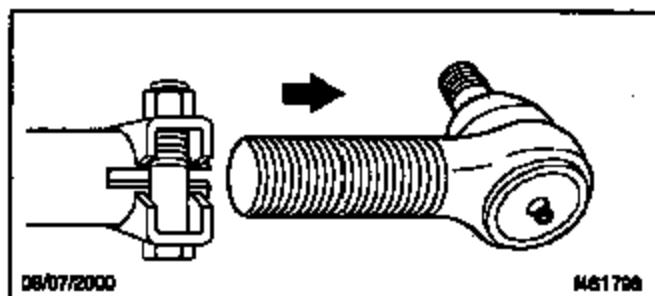

Fig. 6, Remove the Threaded Tie Rod End from the Cross Tube
3. Remove the threaded tie rod ends from the cross tube. See Fig. 6.